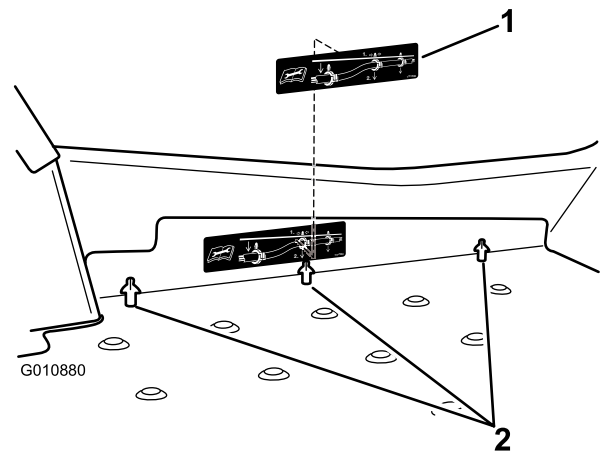

Figure 6
6. Install the decal as shown in Figure 6. Align the middle arrow on the decal with the middle clip.